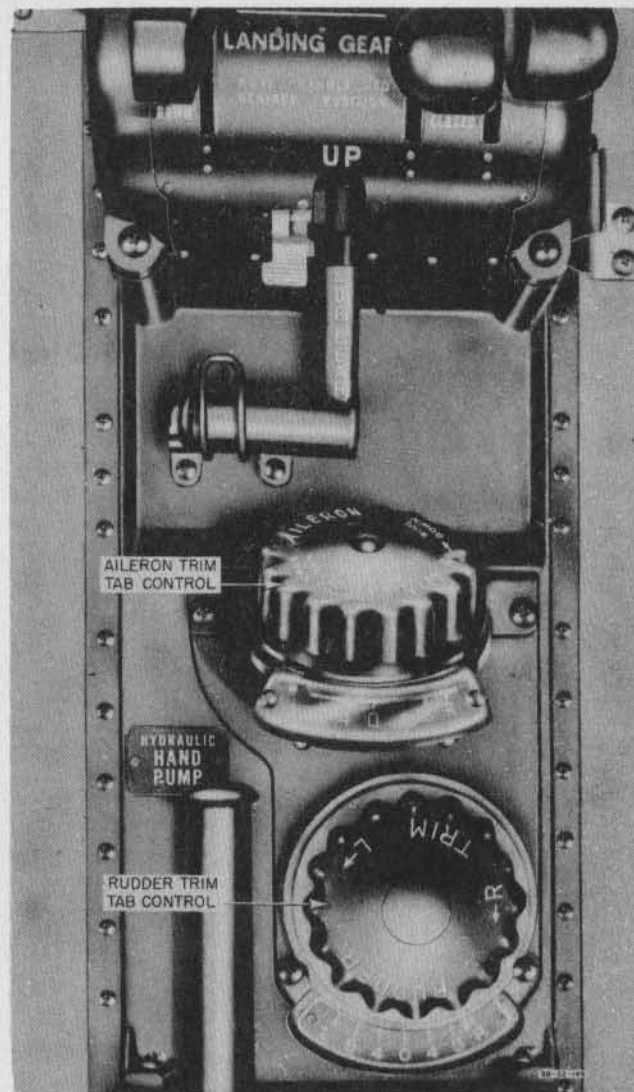

Figure 27—Aileron and Rudder Trim Tab Controls
- (1) Cabin heat switch "OFF."
- (2) Turrets pointing directly aft; waist guns stowed.
- (3) Check flying controls for free movement (watch control surfaces).
- (4) Check elevator, aileron, and rudder trim. (See figure 3-31 and figure 27.)
- (5) Generator and inverter switches "ON."
- (6) De-icer control "OFF" if de-icers are installed.
- (7) Check fuel levels.
- (8) Fuel booster pumps "ON." Fuel pressure 6-7 lbs./sq.in.
- (9) Propeller full "INCREASE RPM."
- (10) Mixture "FULL RICH" (lock snug).
- (11) Supercharger "LOW" (locked).
- (12) If outside air temperature is below -23°C (-10°F), use carburetor heat to maintain smooth engine operation.
- (13) Cowl flaps "OPEN" (control neutral).
- (14) Emergency hydraulic selector valve "NORMAL."